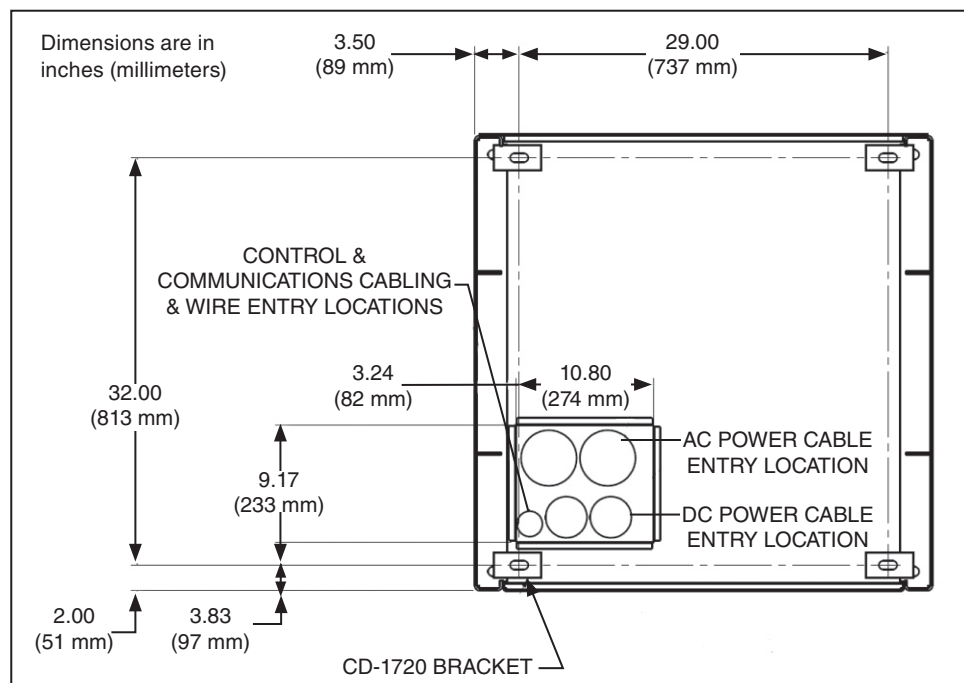

Figure 4. Conduit and bracket measurements for pad-mounting.
- STEP 4.** Properly place the PCS on the concrete pad. See Figure 4 for the location of cable entry conduit and mounting bracket installation areas. For further details, refer to drawing PEA-1610-4-IN and the other project-specific lifting drawings supplied with the PureWave SMS-250 system.